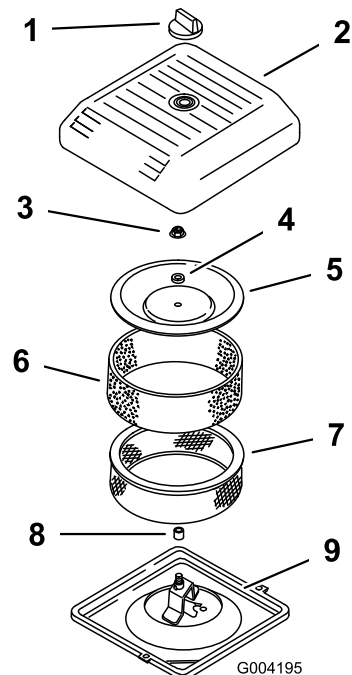

Figure 19
3. Unscrew the knob and remove the air cleaner cover (Figure 19).
4. Carefully slide the foam pre-filter off of the paper element (Figure 19).
5. Unscrew the cover nut and remove the cover, spacer and paper filter (Figure 19).
2. Place the air cleaner assembly onto the air cleaner base (Figure 19).
3. Install the cover, spacer and secure it with the cover nut (Figure 19). Torque the nut to 95 inch-lb (11 N·m).
4. Install the air cleaner cover and secure it with the knob (Figure 19).